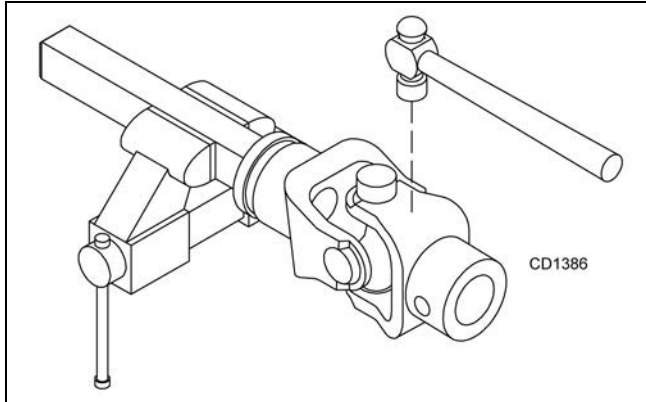

Figure 21
2. With snap rings removed, support drive in vise, hold yoke in hand and tap on yoke to drive cup up out of yoke. See Figure 21.